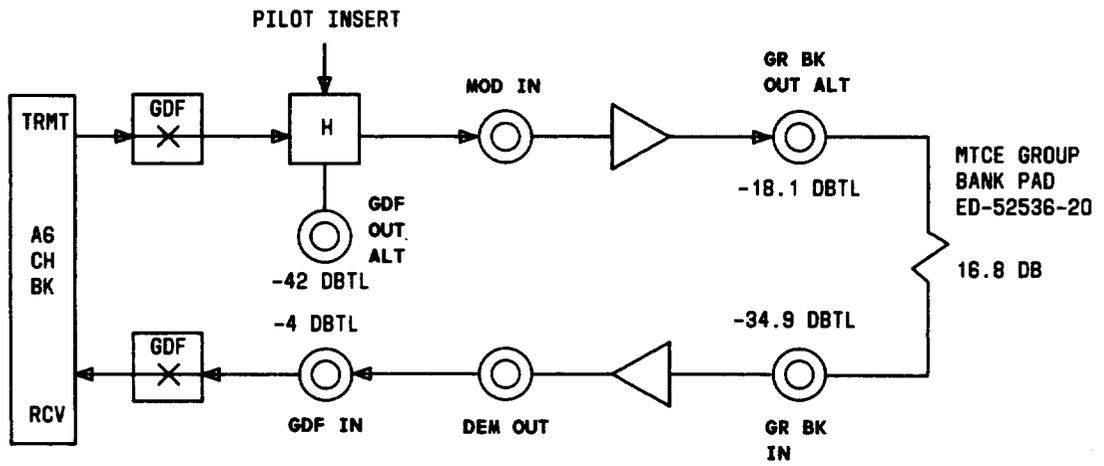

Fig. 7—Typical Channel Bank Equal-Level Looping Arrangements—LMX-3
4	At LMX-3 equipment, make looping connections as shown in Fig. 7.
- 4 At LMX-3 equipment, make looping connections as shown in Fig. 7.